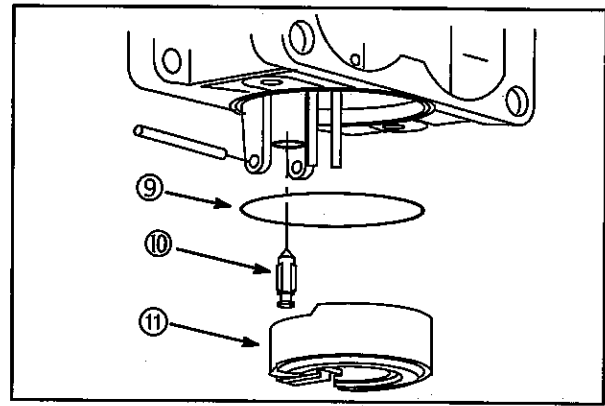

Fig. 128
7. Assemble inlet needle (10) to float (11) and install float, **Fig. 128**.
8. Assemble bowl gasket (9) to body.